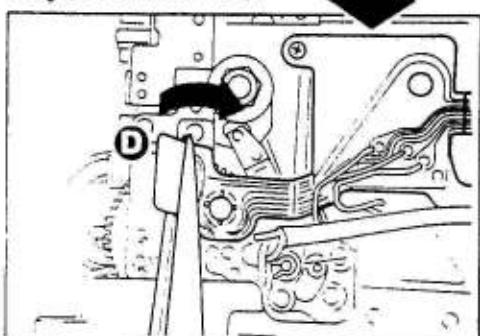

Fig.3
3. Unsolder pink ⑥ and black ⑦ lead wires from the MR unit ⑧ (magnet). (See Fig. 3.)